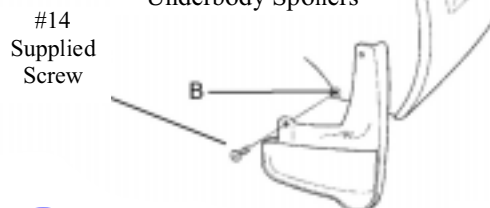

Fig. F-1
-  1. Mount mudguard on body panel and install supplied #14 screw in location B (Fig. F-1).